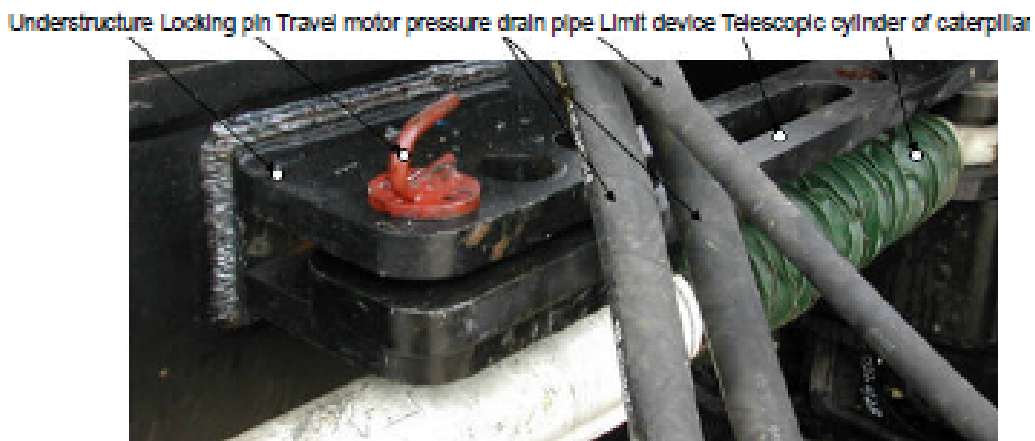

Fig.8-18 Locking mechanism of longitudinal beam
- ③ Pull out the locking pins (totaling 4 ones, see Fig. 8-18) of left and right longitudinal beams of chassis.